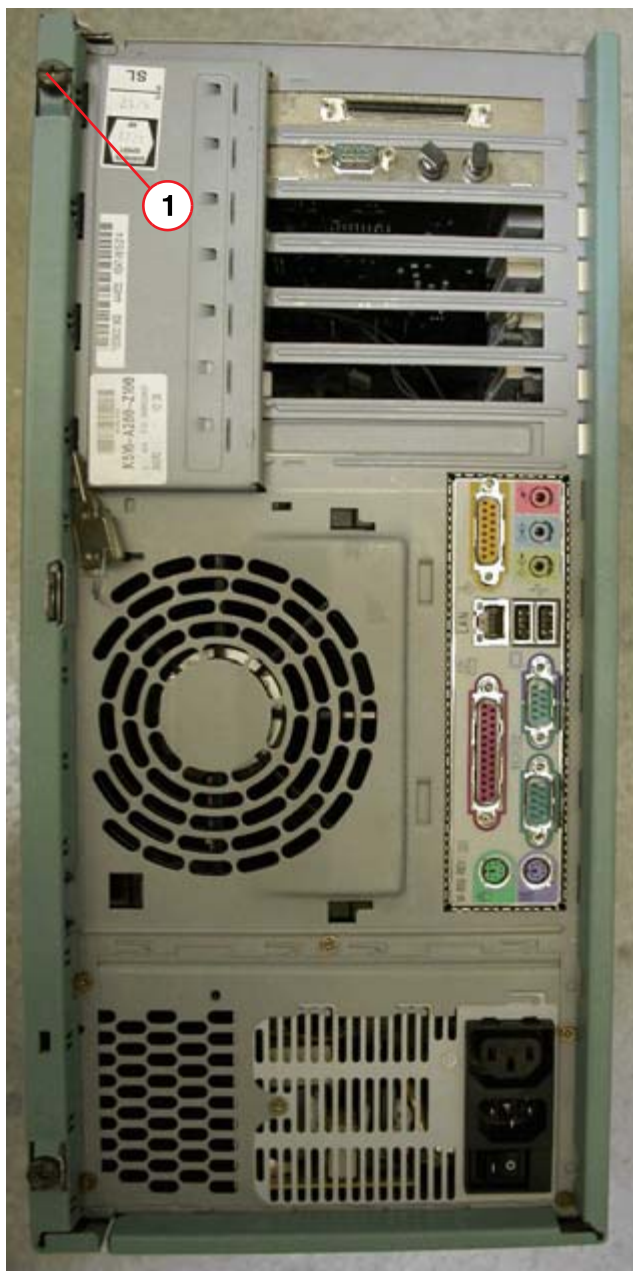

Fig. 30: PC Celsius 444
- Remove the left side cover of the PC after removing the 2 screws on the backside of the PC (1/Fig. 30 / p. 52).